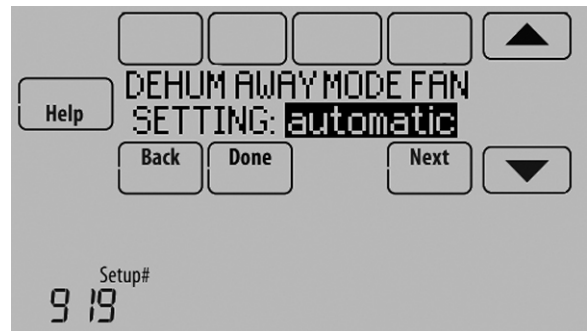

Fig. 139.
2. Set Fan Control settings. See Fig. 139.